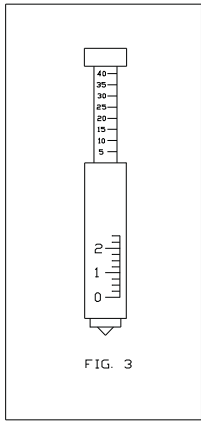

FIG. 3
4. SET SMALL O-RING AT ZERO ON PLUNGER. (Figures 3 & 4)